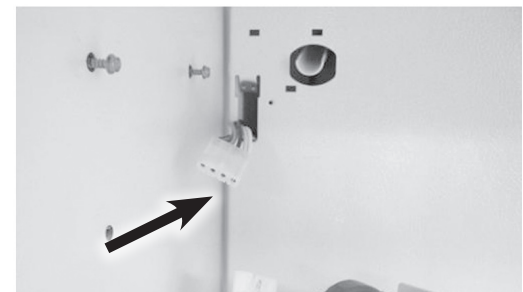

Figure 3
4. Drop the ice maker down and unplug the wire harness, see figure 3.